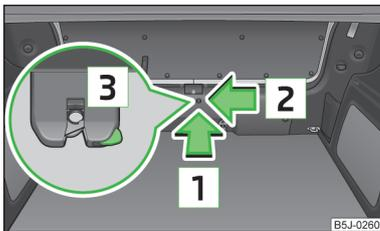

Fig. 36
- Insert a screwdriver or similar tool into the opening in the trim in the direction of the arrow  » Fig. 36 as far as the stop.